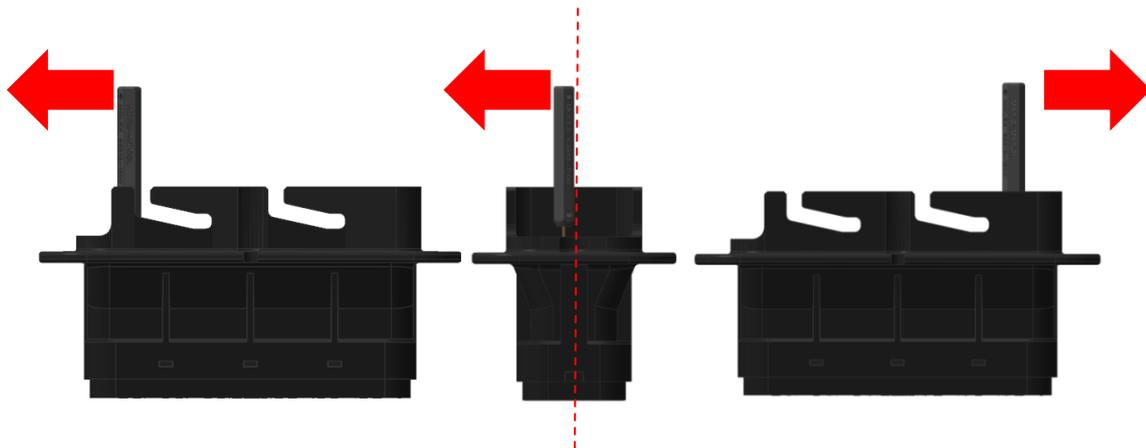
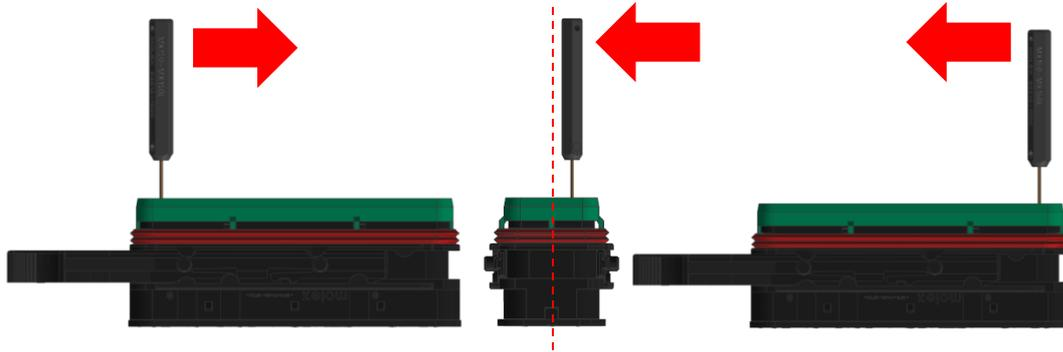

Figure 4.44 (Left) Cavities E, F & G, (Middle) Cavity D (Both cavities away from the centre line), (Right) Cavities A, B & C
Figure 4.45 (Left) Cavities E, F & G, (Middle) Cavity D (Both cavities towards the centre line), (Right) Cavities A, B & C
Figure 4.44 & Figure 4.45 illustrate the method of removal of the Female Receptacle Terminal and the Male Blade Terminal from the respective connector housing assemblies.
- Once the tool is engaged with the retention finger apply very small lateral force to the top of the tool in the direction shown in Figure 4.44 & Figure 4.45. When the tool is angled slightly, apply small pulling force to the cable and remove terminal.